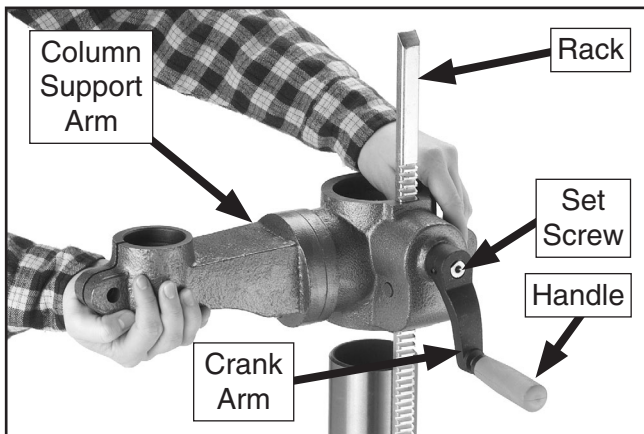

Figure 15. Rack orientation (G7946 shown).
4. Slide the crank arm over the pinion gear shaft and align the set screw in the crank arm with the flat portion of the shaft (see **Figure 15**).
6. Remove column ring (**Figure 16**) by loosening set screw and remove rack (**Figure 15**). The end of the rack that has teeth extending closest to the edge must be positioned down.
7. Insert rack into table bracket pocket so gear teeth mesh with rack as shown in **Figure 15**.